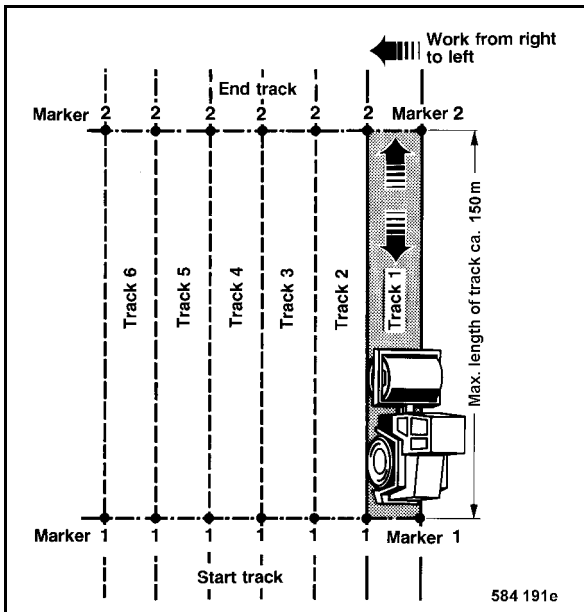

Fig. 91
- Mark the track to be compacted (Fig. 91).